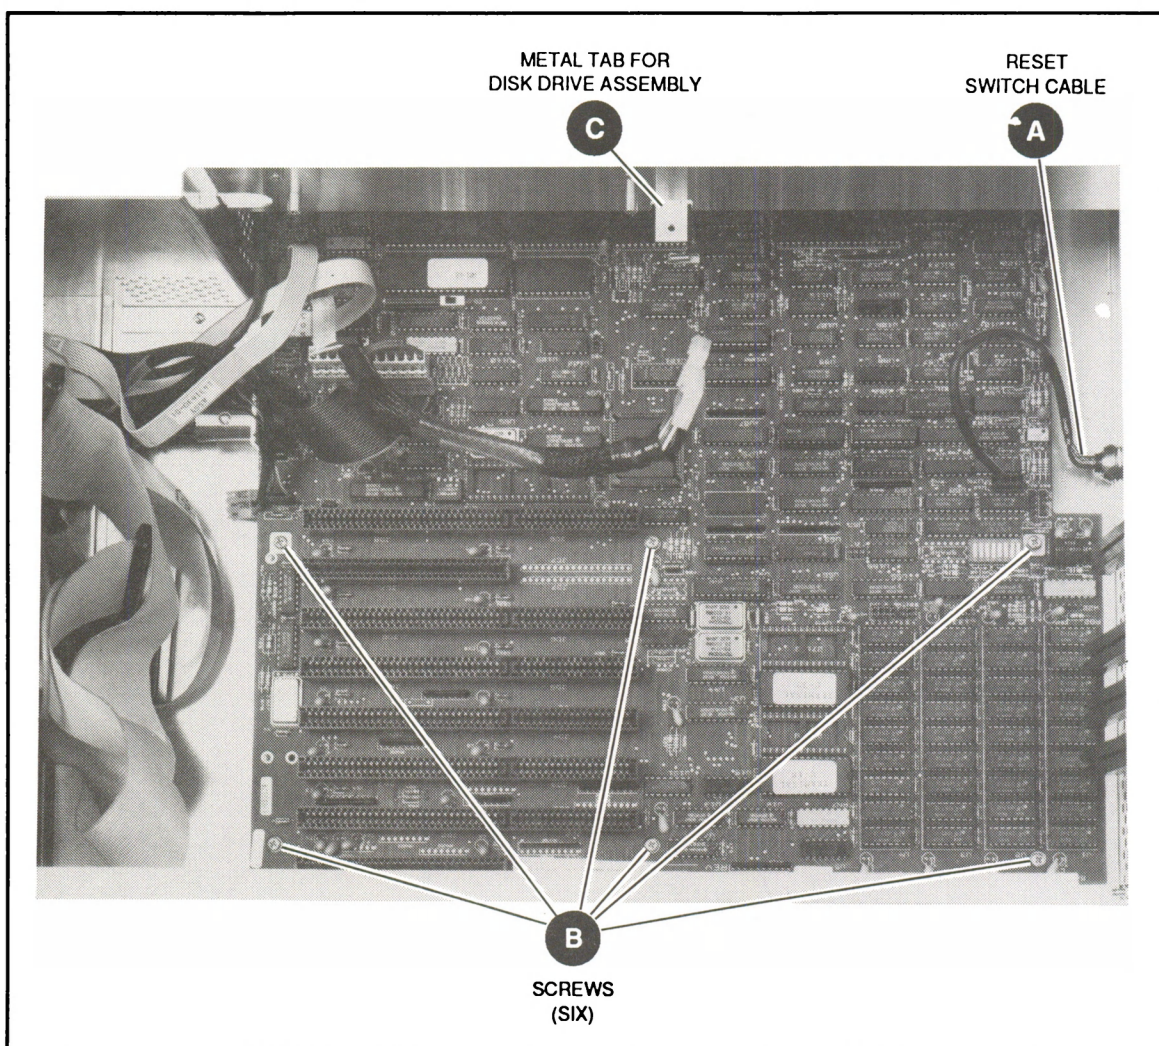

Figure 4-8. CPU Motherboard PWA in Edit Controller Chassis
The following procedure is used to remove the CPU Motherboard PWA. Figure 4-8 shows this board in the Edit Controller chassis.
5. Remove connector J12 to Reset Switch (see Figure 4-8 [A]).
11. Remove 6 cross-recessed screws securing PWA to Edit Controller (see Figure 4-8 [B]).
12. Tilt PWA and carefully remove from Edit Controller chassis. Watch out for metal tab (see Figure 4-8 [C]).